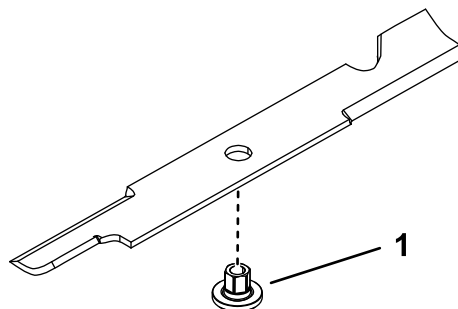

Figure 85
1. Install the bushing through the blade with the bushing flange on the bottom (grass) side of the blade (Figure 85).